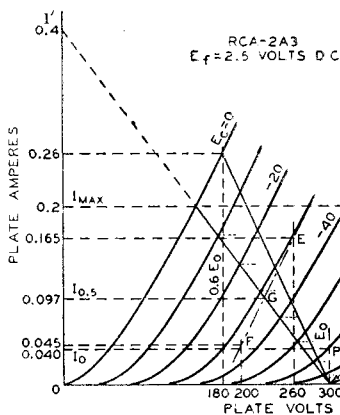
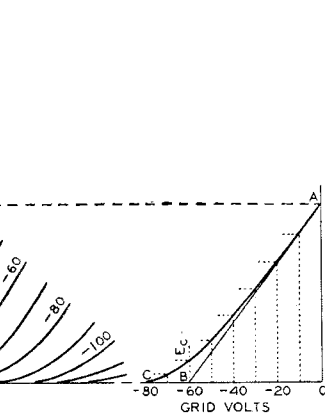

Fig. 24
Fig. 25
In class AB1 push-pull amplifier service using triodes, the operating conditions may be determined graphically by means of the plate family if E0, the desired operating plate voltage, is given. In this service, the dynamic load line does not pass through the operating point P as in the case of the single-tube amplifier, but through the point D in Fig. 24. Its position is not affected by the operating grid bias provided the
In general, for any load line through point D, Fig. 24, the plate-to-plate load
**Example:** Fig. 24 illustrates the application of this method to a pair of 2A3's operated at  $E_o = 300$  volts. Each tube has a plate-dissipation rating of 15 watts. The method is to erect a vertical line at  $0.6E_o$ , or at 180 volts, which intersects the  $E_c = 0$  curve at the point  $I_{Dmax} = 0.26$  ampere. Using the simplified formulas, we obtain
The operating bias and the zero-signal plate current may now be found by use of a curve which is derived from the plate family and the load line. Fig. 25 is a curve of instantaneous values of plate current and dc grid-bias voltages taken from Fig. 24. Values of grid bias are read from each of the grid-bias curves of Fig. 24 along the load line and are transferred to Fig. 25 to produce the curved line from A to C. A tangent to this curve, starting at A, is drawn to intersect the grid-voltage abscissa. The point of intersection, B, is the operating grid bias for fixed-bias operation. In the example, the bias is -60 volts. Refer back to the plate family at the operating conditions of plate volts = 300 and grid bias = -60 volts; the zero-signal plate current per tube is seen to be 0.04 ampere.
As in the case of the push-pull class A amplifier, the second-harmonic distortion in a class AB1 amplifier using triodes is very small and is largely canceled by virtue of the push-pull connection. Third-harmonic distortion, however, which may be larger than permissible, can be found by means of composite characteristic curves. A complete family of curves can be plotted, but for the present purpose only the one corresponding to a grid bias of one-half the peak grid-voltage swing is needed. In the example, the peak grid voltage per tube is 60 volts, and the half value is 30 volts. The composite curve, since it is nearly a straight line, can be constructed with only two points (see Fig. 24). These two points are obtained from deviations above and below the operating grid and plate voltages.
long-short dash line in Fig. 24. At the intersection of the composite curve and the load line, G, the instantaneous composite plate current at the point of one-half the peak signal swing is determined. This current value, designated  $I_{0.5}$  and the peak plate current,  $I_{max}$ , are used in the following formula to find peak value of the third-harmonic component of the plate current.